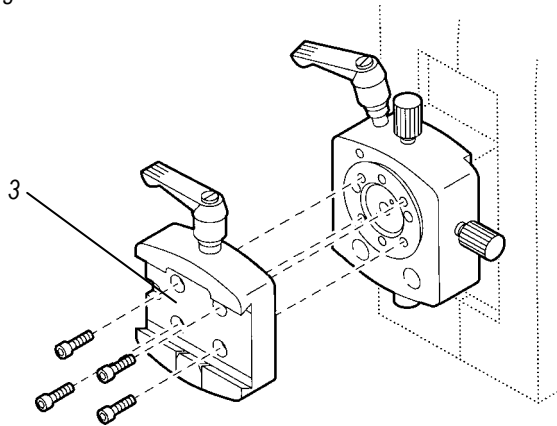

Fig. 3-2
- To remove the clamp adapter (3) from the orientation attachment (Fig. 3-2), detach the four screws with a size 3 Allen key.